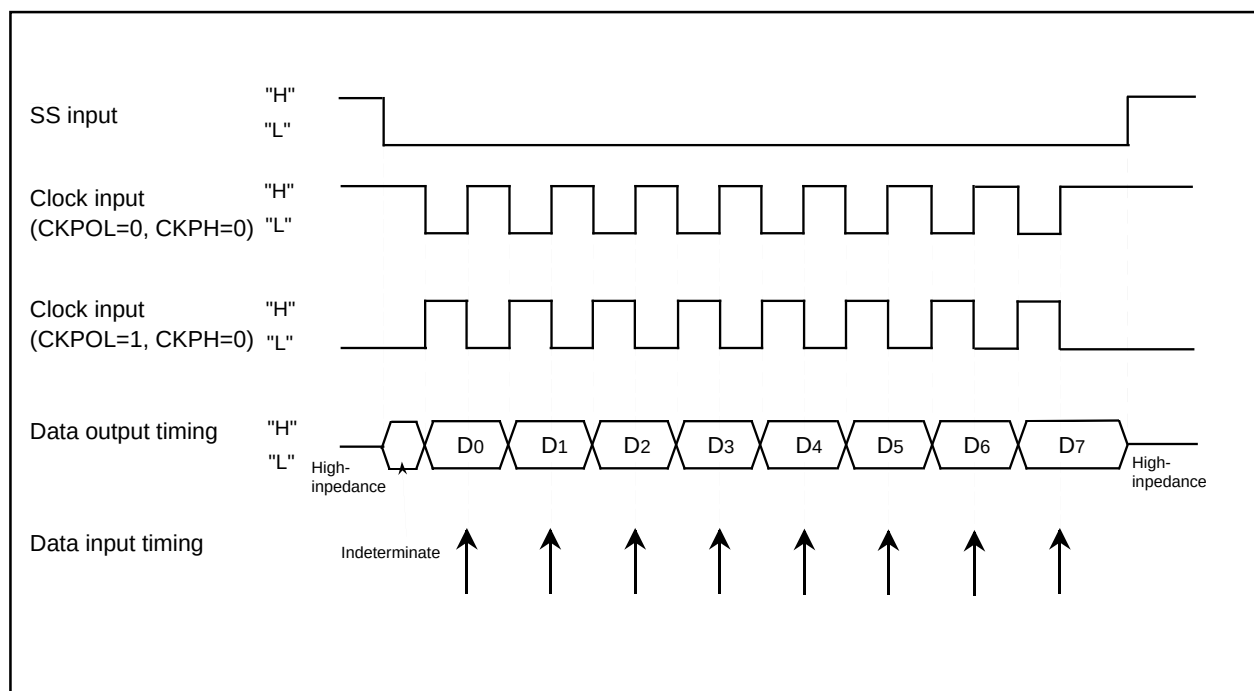

Figure 20.8 The transmission and reception timing (CKPH=0) in slave mode (external clock)
- With "0" for bit 1 (CKPH) of UARTi special mode register 3 (addresses 0325₁₆ and 02F5₁₆ [i = 3 or 4]), when an SSI input pin is H level, output data is high impedance. When an SSI input pin is L level, the serial transmission start condition is satisfied, though output is indeterminate. After that, serial transmission is synchronized with the clock. Figure 20.8 shows the timing.